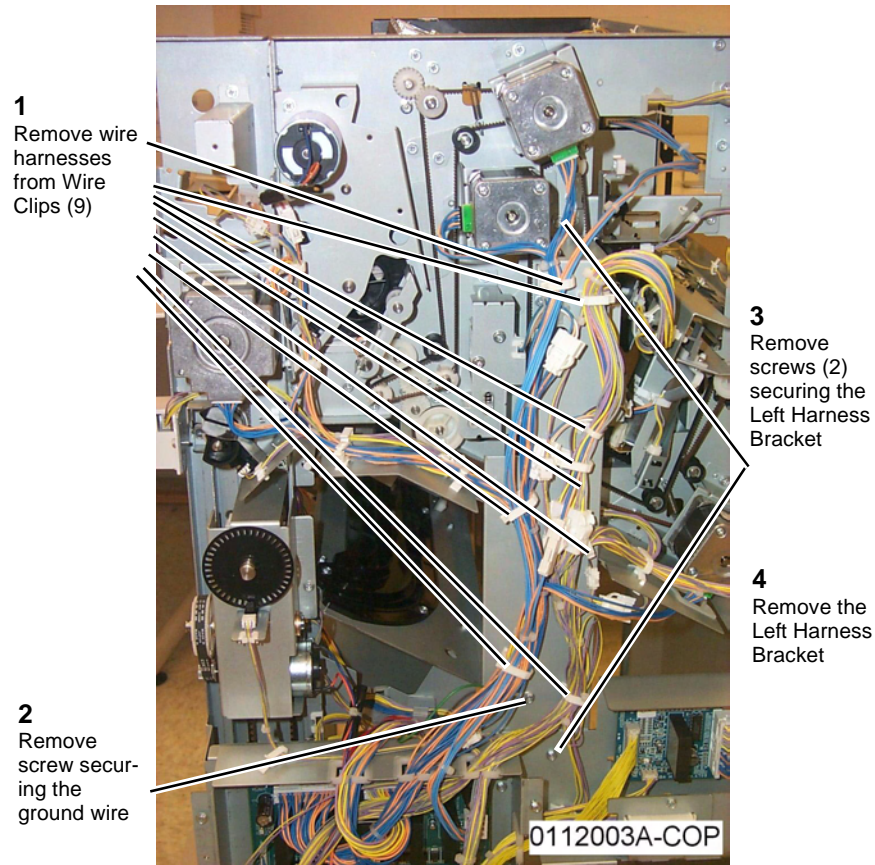

Figure 1 Removing the Left Harness Bracket
2. Remove the Left Harness Bracket (Figure 1).